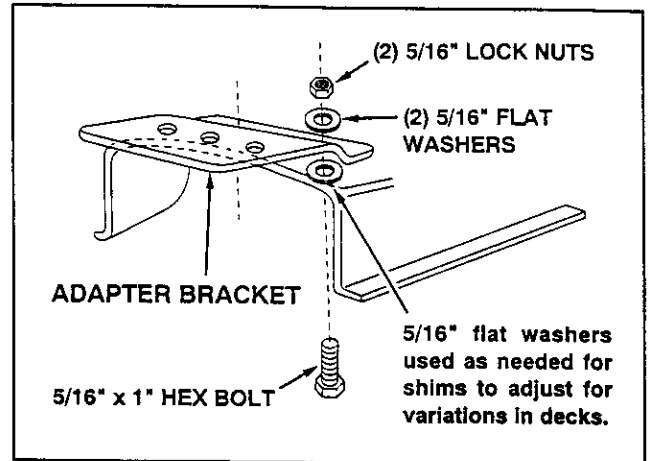

FIGURE 32
- Assemble the adapter bracket to the deck using two 5/16" x 1" hex bolts, 5/16" flat washers and 5/16" lock nuts. See figure 32.
NOTE: It may be necessary to use extra 5/16" flat washers to shim under the bracket next to the deck surface. Ten extra washers have been furnished as shims. See figure 32.